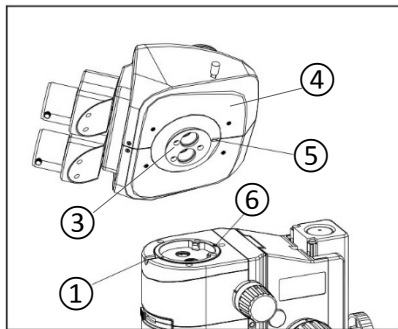
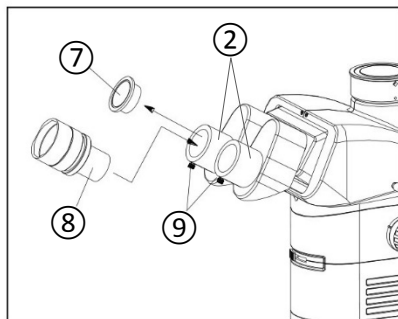

Fig. 5
Fig. 6
With the eyepiece tubes ② facing forward (as shown in Fig. 6), carefully slide the dovetail ③ (Fig. 5) on the bottom of the viewing head ④ (Fig. 5) onto the dovetail mount on the top of the microscope body by aligning the orientation groove ⑤ with the orientation pin ⑥ of the microscope body. Make sure it is seated properly (it should be level and not wobble), then tighten the lock screw.
Install the Eyepieces (Fig. 6)